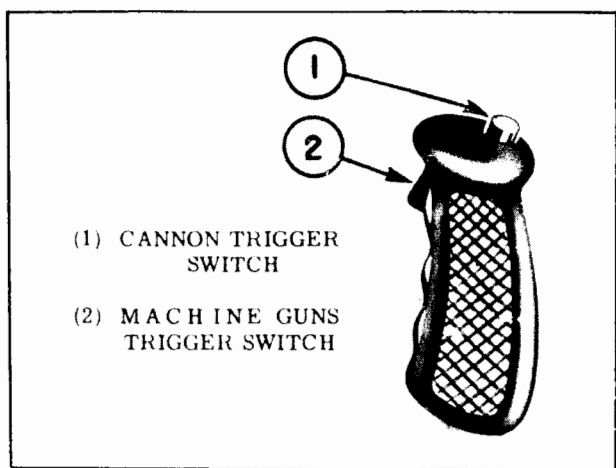

Figure 3 - Control Stick Grip
b. **AILERON AND ELEVATOR CONTROLS.** - A conventional control stick is equipped with a "squeeze-type" trigger (figure 3) for firing the fuselage and wing machine guns, and a push button (figure 3) for firing the .37-mm cannon.